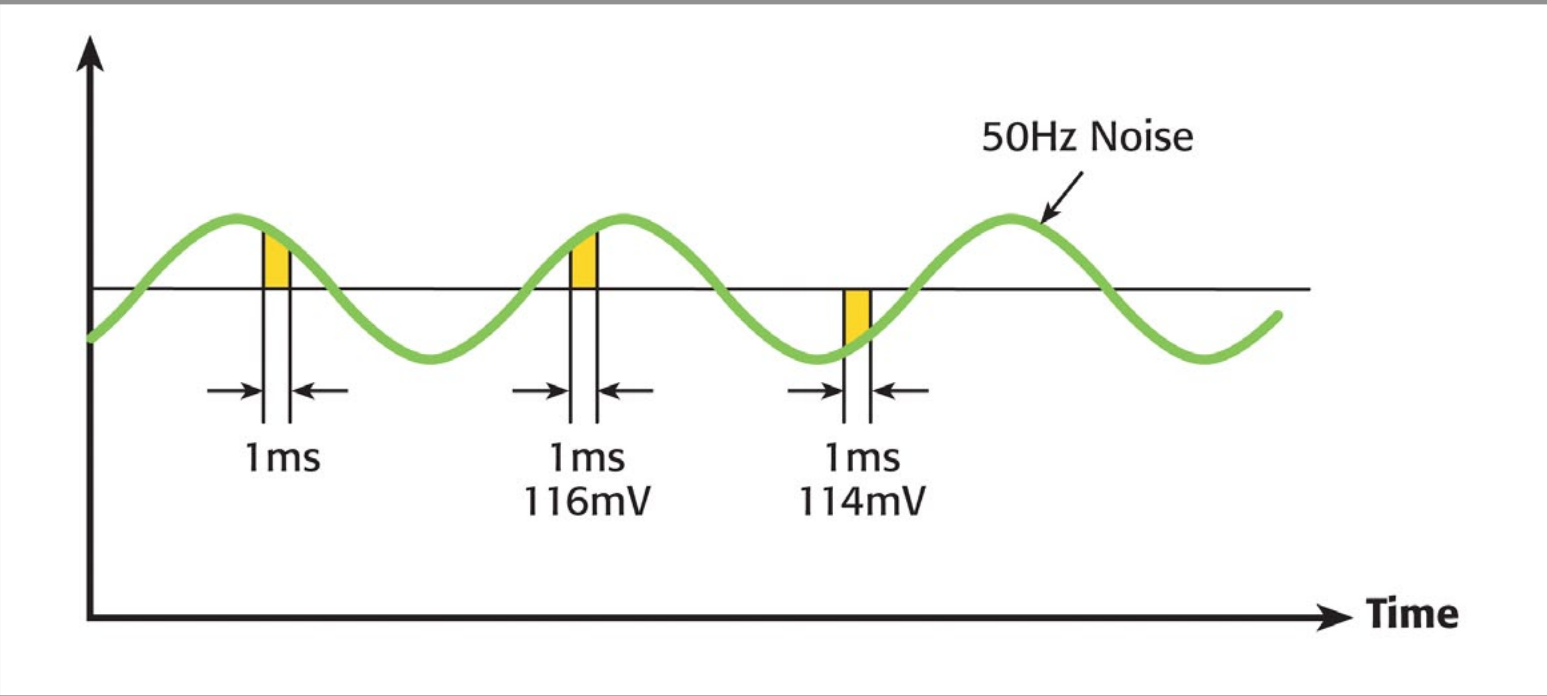

Figure 5
■ **External interference.** External interference introduces both AC and DC errors into signal measurements. The most common form of external noise “pick-up” is 50Hz or 60Hz line pick-up, depending on where in the world the measurements are being made. Picking up millivolts of noise is not uncommon, especially when measurements are made near fluorescent lights. The signal components of noise superimposed on a DC signal being measured may result in highly inaccurate and fluctuating measurements. As shown in **Figure 5**, the measured value will very much depend on where the measurement is carried out in relation to the sine wave. Many modern instruments allow users to set the integration period in relation to the number of power line cycles. In other words, a setting of 1 NPLC will result in the measurement being integrated for 20 milliseconds (if 50Hz) and 16.67milliseconds (if 60Hz), which will eliminate any mains generated noise. The performance improvements this feature make possible are often dramatic.